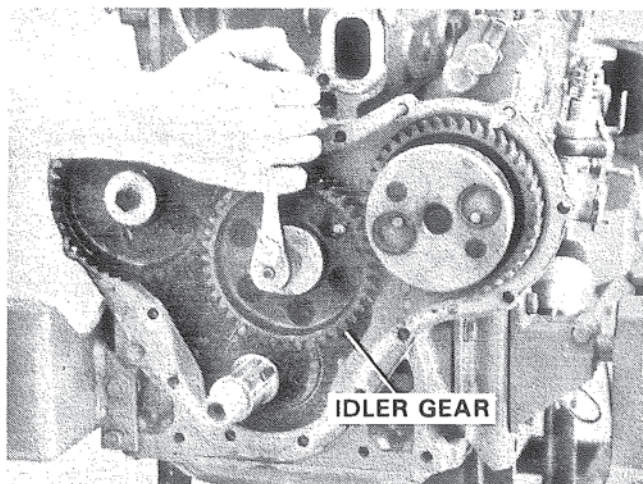

Figure 11. Remove Idler Gear.
19. Remove thrust plate bolt, remove idler gear. Figure 11.